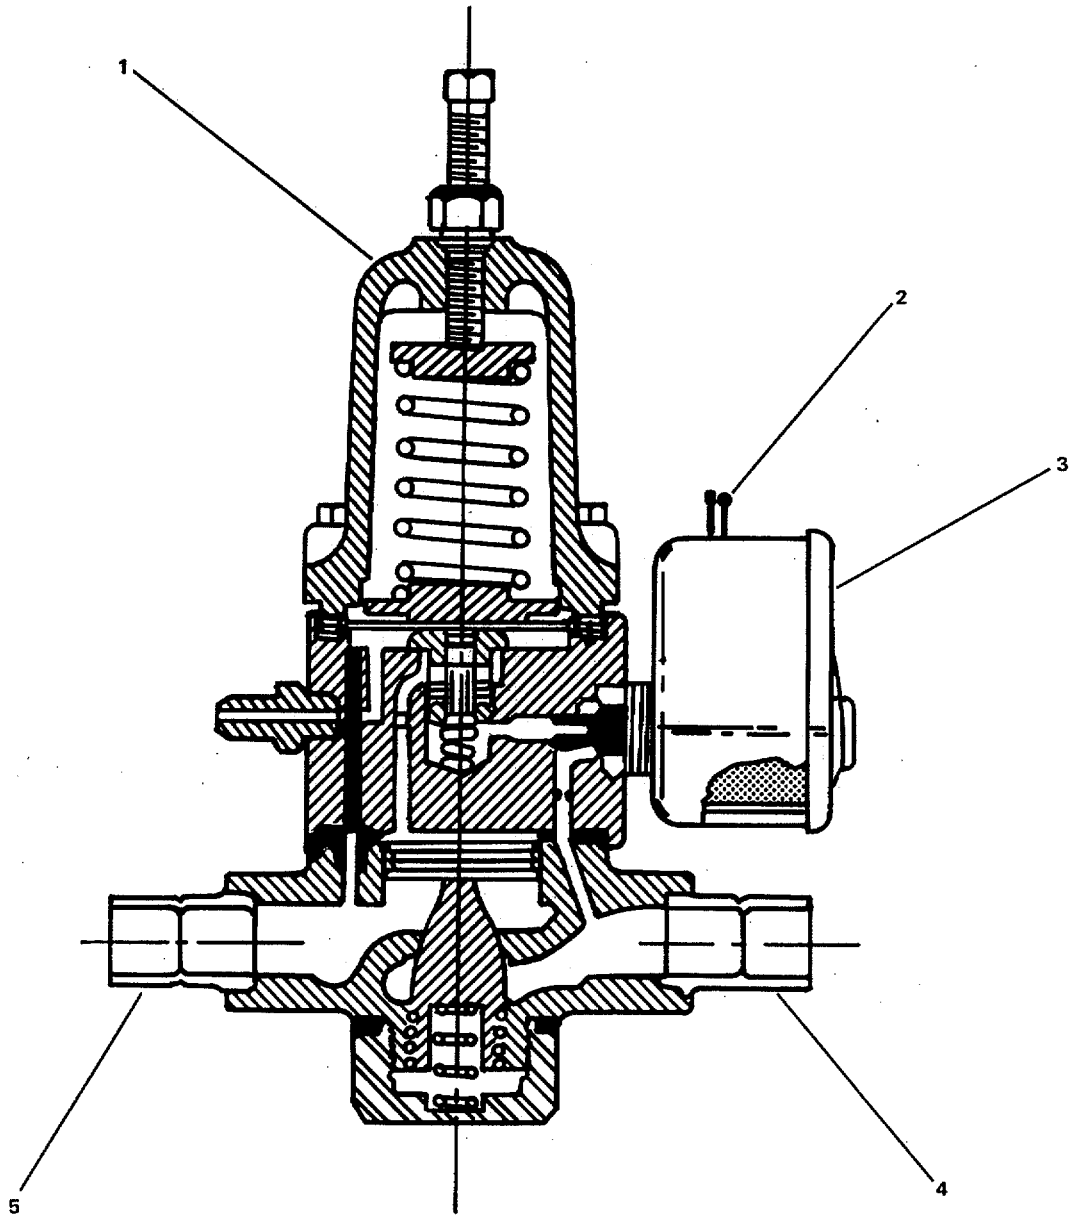

Figure 4-6. *Hot Gas Valve.*
- c. Replace hot gas valve (1, FIGURE 4-6) as follows: